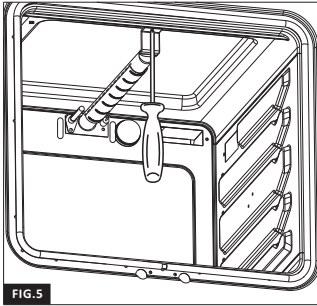

FIG.5
- Remove the front screw and detach the burner (Fig. 5).